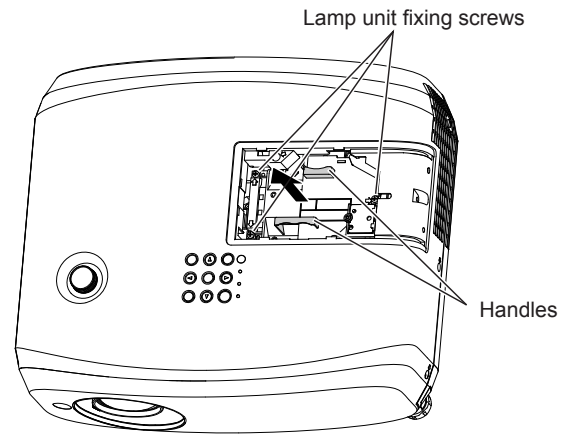

Fig. 2
- 3) **Remove the lamp unit. (Fig. 2)**